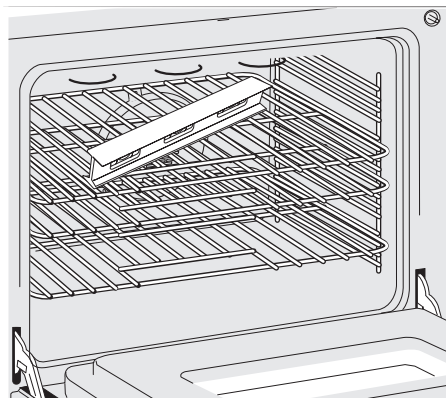
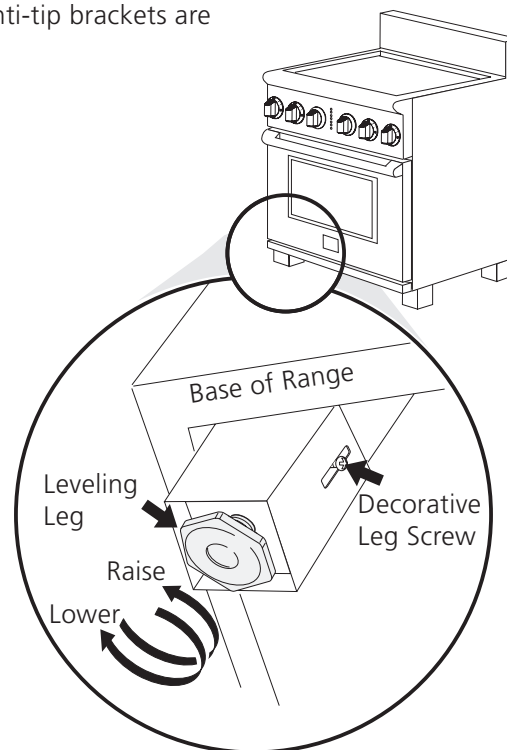

Figure 16
Figure 21
2. Place a level on the rack (see Figure 16). Take 2 readings with the level placed diagonally in one direction and then the other. Level the range, if necessary, by adjusting the 4 leveling legs with a wrench (see Figure 21).
6. Level range if necessary, by adjusting the 4 leveling legs with an adjustable wrench. Loosen the screw which fixes the decorative leg and lift it to reach the leveling leg. Turn the leveling leg counterclockwise to raise the range or clockwise to lower the range (see Figure 21). Replace the decorative legs at your convenience.